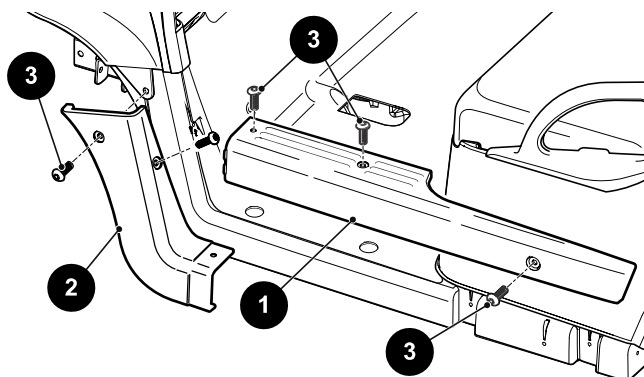

Figure 4 Rocker Panel Removal
1. Remove the lower rocker panel (1) by removing three torx screws (3) (Figure 4).
2. Remove the upper rocker panel (2) by removing the two remaining torx screws (3).